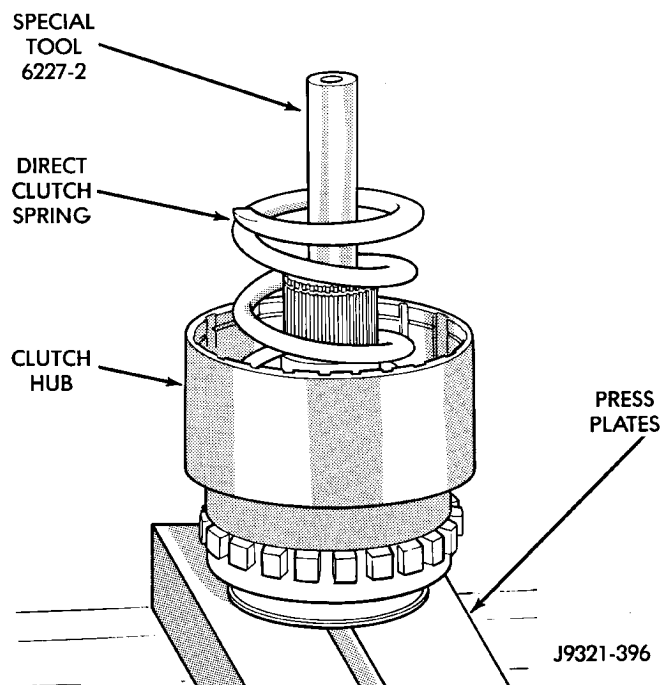

Fig. 232 Direct Clutch Spring Installation
(17) Install direct clutch spring (Fig. 232). Be sure spring is properly seated on spring plate.
(18) Assemble and install direct clutch pack on hub as follows: